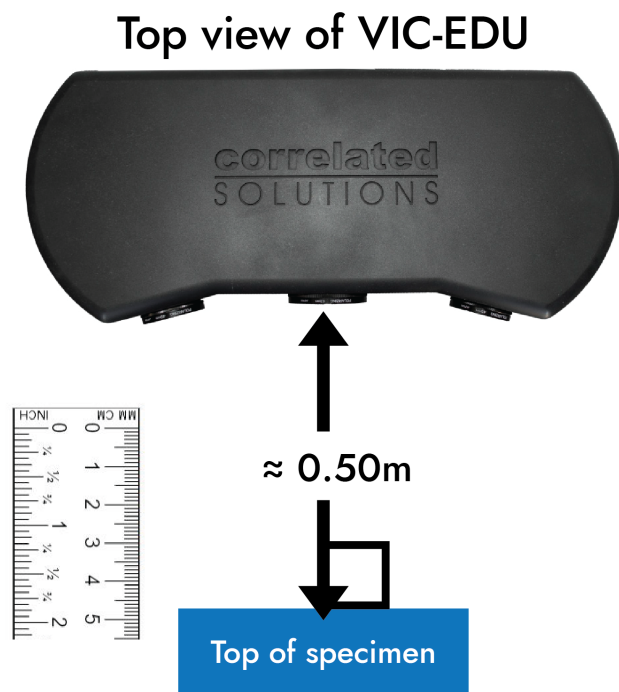

Figure 5: Schematic of experimental setup
2. An important parameter in optical imaging is the distance you can move a specimen towards and away from the cameras while continuing to acquire well-focused images. Known as Depth Of Field (DOF), you will experimentally estimate DOF for a planar specimen. See Fig. 5 for description.